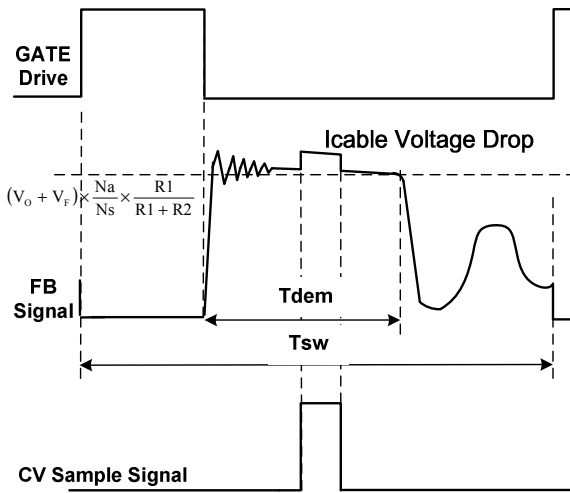

Fig.2
In primary side control, the output voltage is sensed on the auxiliary winding during the transfer of transformer energy to the secondary. Fig.2 illustrates the CV sampling signal timing waveform in JW1501A/B. As shown in Fig.2, it is clear that there is a down slope representing a decreasing total rectifier VF and its voltage drop as the secondary current decreases to zero. To achieve an accurate representation of the secondary output voltage on the auxiliary winding, the CV sampling signal blocks the leakage inductance reset and ringing. When the CV sampling process is over, the internal sample/hold (S&H) circuit captures the error signal and amplifies it through the internal Error Amplifier (EA). The output of EA is sent to the PSR Constant Voltage Modulator (PSR-CVM) for CV control. The internal reference voltage for EA is trimmed to 2V with high accuracy.
During the CV sampling process, an internal variable current source is flowing to FB pin for Cable Drop Compensation (CDC). Thus, there is a step at FB pin in the transformer demagnetization process, as shown in Fig.2. Fig.2 also illustrates the equation for “demagnetization plateau”, where Vo and VF is the output voltage and diode forward voltage; R1 and R2 is the resistor divider connected from the auxiliary winding to FB Pin, Ns and Na are secondary winding and auxiliary winding respectively.